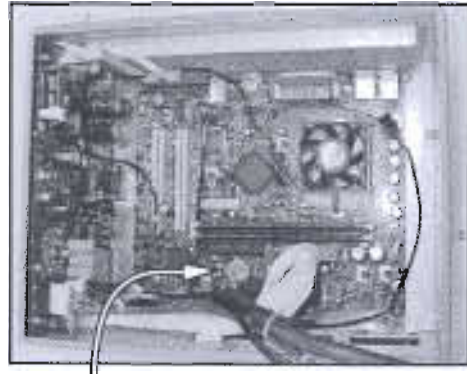

Figure 4-7 Location of CPU battery inside Host Module. DVI and CANBUS PCB's removed for clarity.
- 8.6 Remove old battery from CPU PCB by pressing small metal clip (see Figure 4-7).